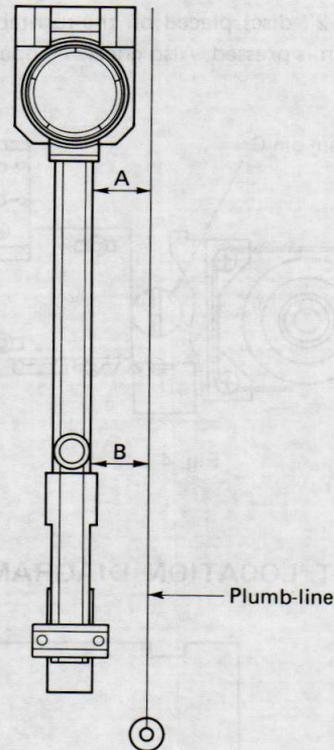

Fig. 3
- 1) Put the player into the state as 1 (1). Hang a plumb line from the top-surface of player. Adjust the stylus pressure weight of tone arm to 0 g. (See Fig. 3)